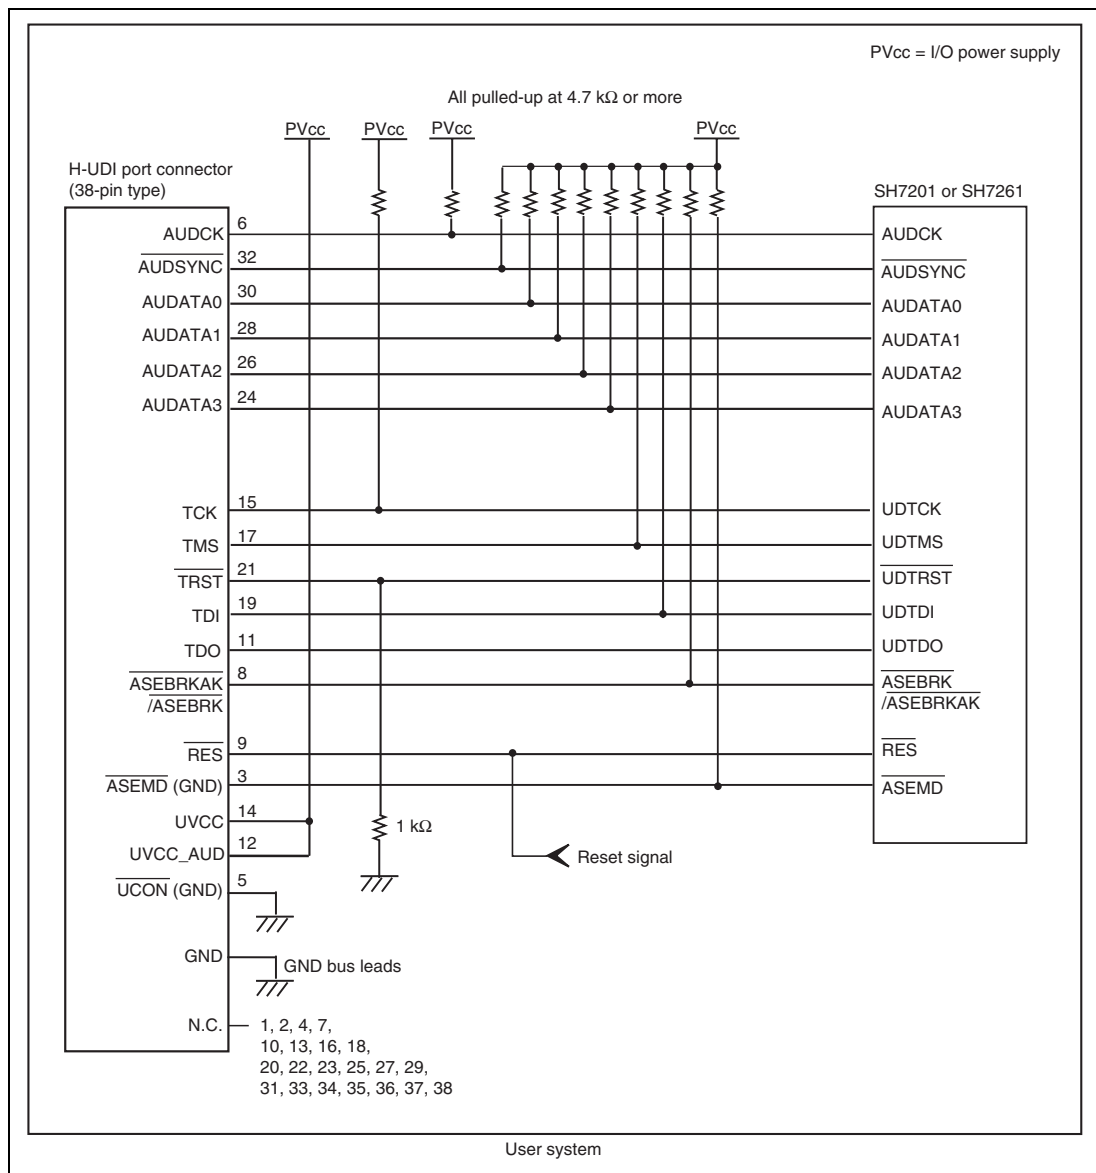

Figure 1.7 Recommended Circuit for Connection between the H-UDI Port Connector and MCU when the Emulator is in Use (38-Pin Type)
Figure 1.7 shows a recommended circuit for connection between the H-UDI and AUD port connectors (38 pins) and the MCU when the emulator is in use.
(1) When the emulator is used: `_ASEMD` = 0
(2) When the emulator is not used: `_ASEMD` = 1
Figure 1.7 shows an example of circuits that allow the `_ASEMD` pin to be GND (0) whenever the emulator is connected by using the user system interface cable.
7. The resistance value shown in figure 1.7 is for reference.
When the circuit is connected as shown in figure 1.7, the switches of the emulator are set as SW2 = 1 and SW3 = 1. For details, refer to section 3.8, Setting the DIP Switches, in the SuperH™ Family E10A-USB Emulator User's Manual.